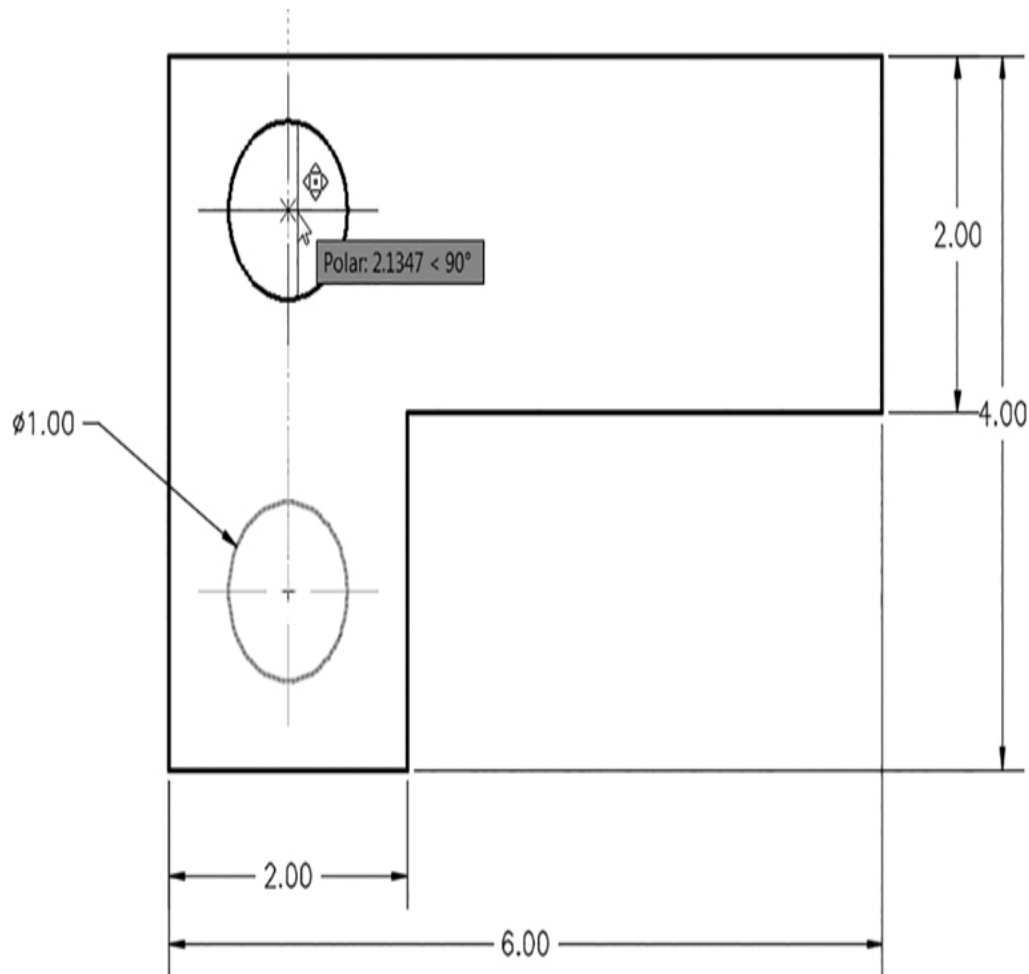

Figure 2-39
- 7 Drag the object straight up until the 90° polar tracking alignment path appears (see Figure 2-39). Once it appears, type **2<Enter>**. The circle, lines, and dimensions move up 20.